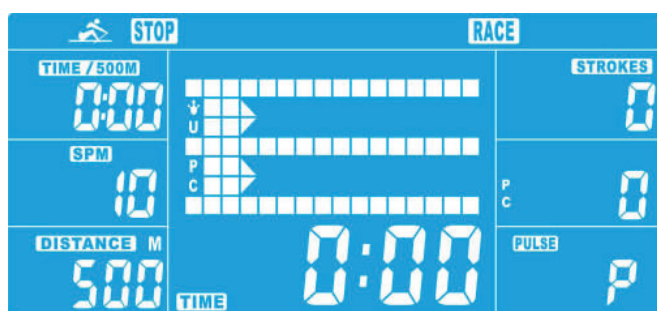

Figure 10
1. Press the UP or DOWN button to select the race programme mode (fig. 10). Confirm with the ENTER button.
1. Press the UP or DOWN button to select the user-defined programme mode (fig. 10). Confirm with the ENTER button.